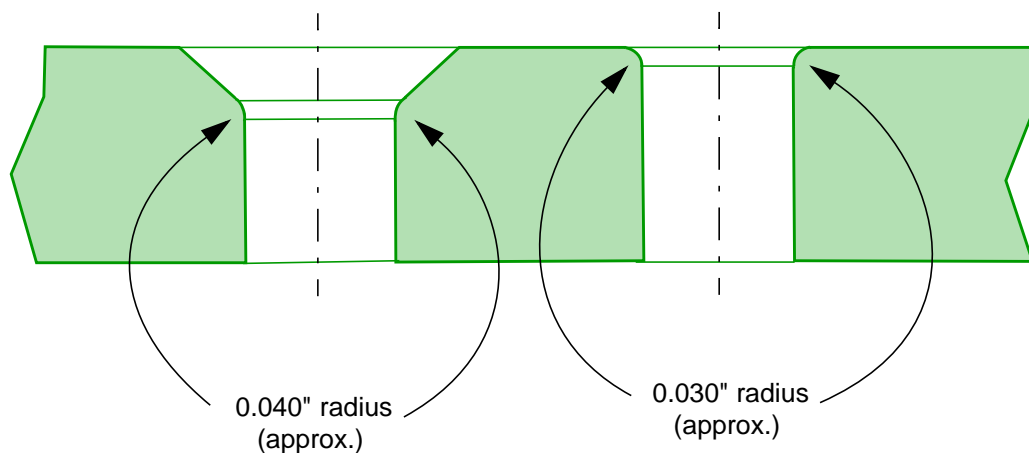
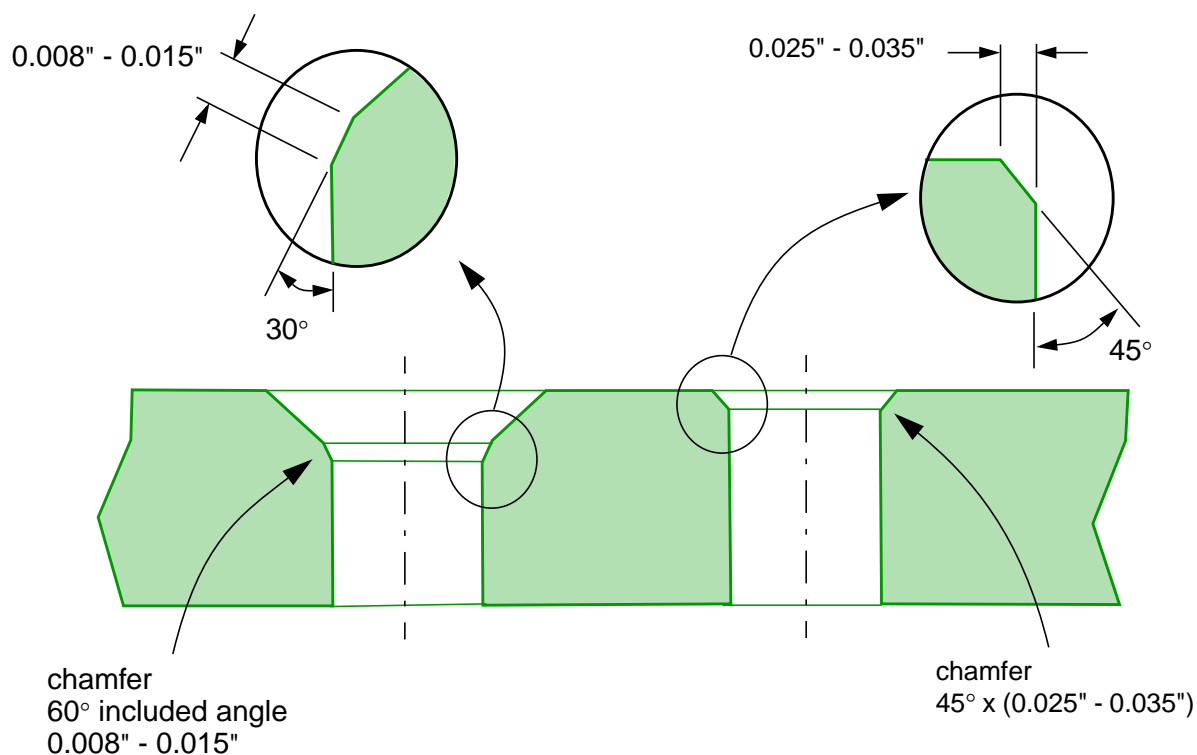

Figure 2 - Radiusing of Hole Edges for Fastener Seating
Figure 3 - Breaking of Hole Edges for Fastener Seating
- Step 11. Radius hole edges where the rivet head will seat as shown in Figure 2. Alternatively, if radiusing equipment is not available, it is acceptable to chamfer the hole edges as shown in Figure 3.